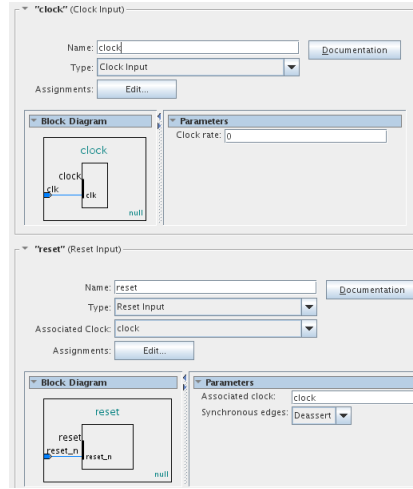

Figure 3: Genesis Component Signals
4. Configure the component interfaces as in figures 3, 4, and 5: